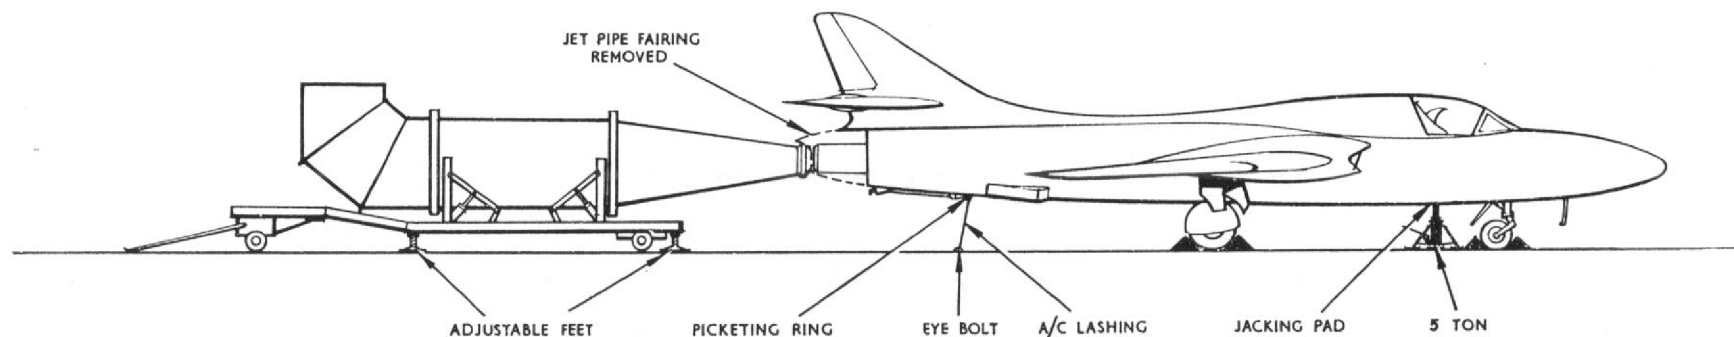

Fig. 1 Attachment of noise attenuator
- (1) Ensure that the aircraft oleo legs are normally compressed, and not in an extended position.
- (2) Observe current regulations and precautions for the ground running of aircraft engines.
- (3) Station an extra safety rating, in contact with the cabin occupant, to have a full side view of the jet pipe exit area. He is to be instructed to give warning to the cabin in the event of movement between aircraft and attenuator.
(4) Before commencing full power engine checks, accelerate the engine slowly to check the restraining devices of the aircraft and attenuator.
(5) Ensure that personnel in the vicinity of the running-up area are clear of what would be the jet blast area.
(6) Check the vicinity of the ground running base. This should be completely free of stones, oil, water, etc.
7. The following is the procedure for setting up the aircraft and attenuator. (fig. 1):—